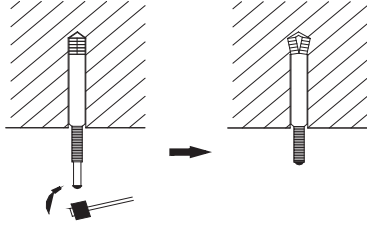

Fig. 26 - Expansion Bolt
1. Insert the M10 expansion bolt into the hole, and then knock the nail into the bolt. Refer to the Outline Dimension Drawings of the Indoor Unit for the distance between holes and see Fig.26 for the installation of the expansion bolt.